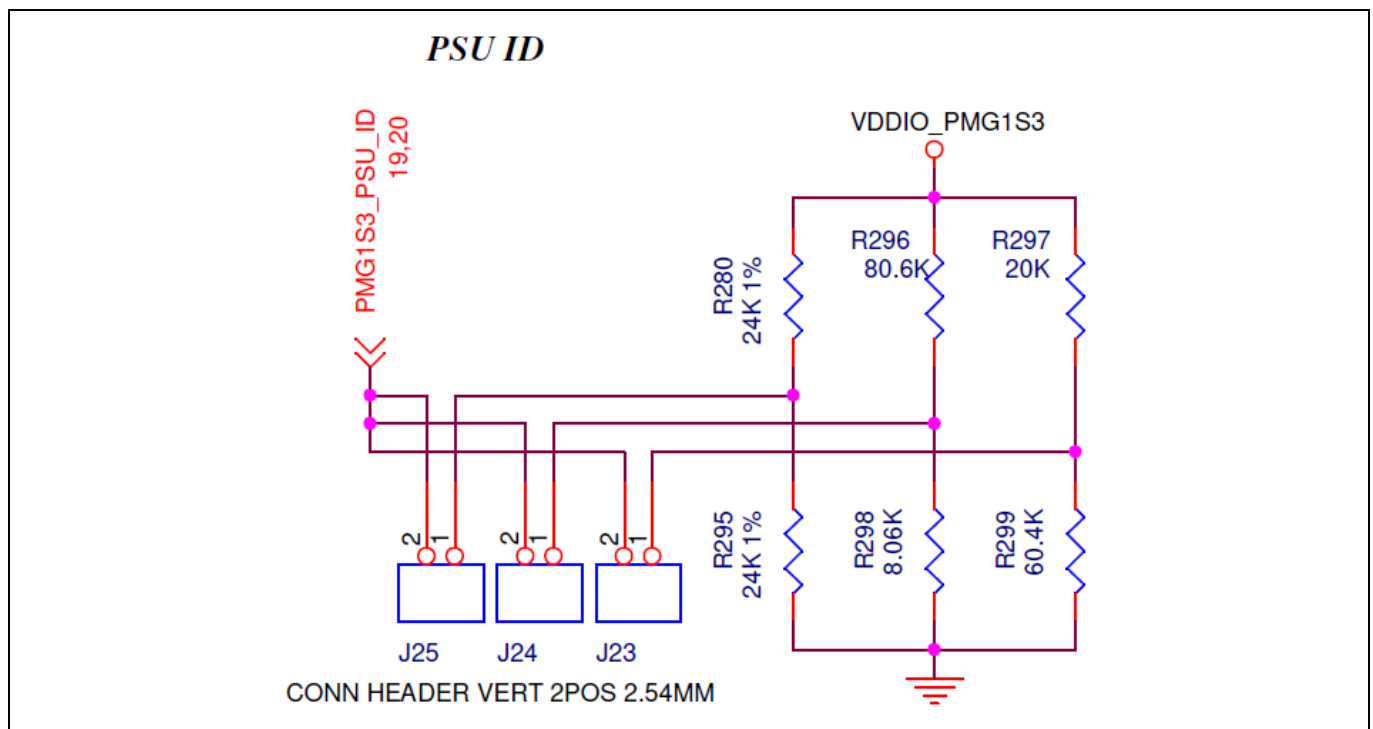

Figure 24 Combination of jumper with resistor dividers for determining power rating of adapter in PMG1-S3 USB-C Dock board
- **Jumper configuration:** On board jumper combinations can be used to determine the power rating of supported adapters. This method is only applicable on the EZ-PD™ PMG1-S3 USB-C Dock board. Figure 24 shows the combination of jumper with resistor divisor circuit to determine the power rating of adapter in EZ-PD™ PMG1-S3 USB-C Dock board.